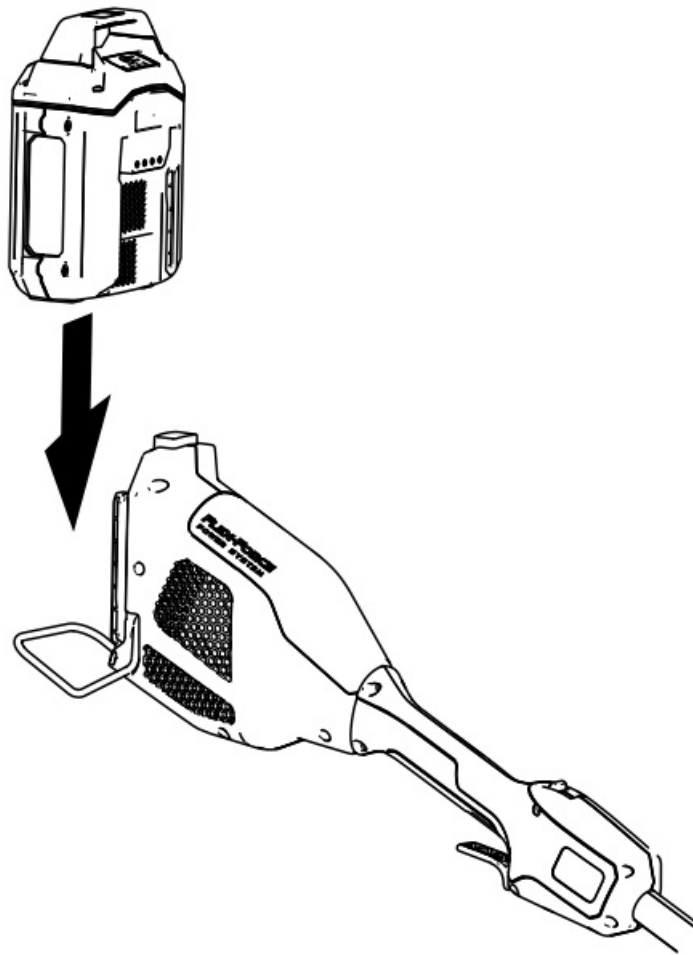

Figure 9
2. Align the cavity in the battery pack with the tongue on the handle housing (Figure 9).